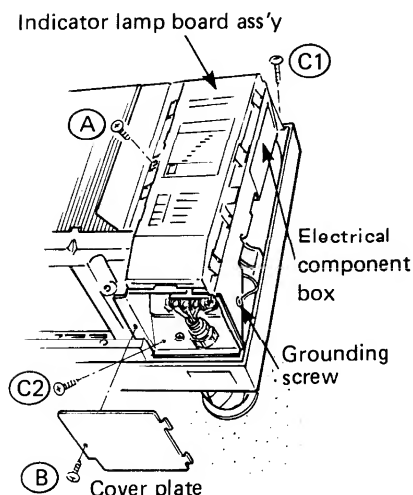

Fig. D-2
- 2) Using a Phillips screwdriver, remove set screw (A) on the indicator lamp board ass'y. Fig. D-2.
- a) Remove screw (B) and the cover plate.
- c) Remove screws (C1), (C2) and the grounding screw respectively. Fig. D-2.